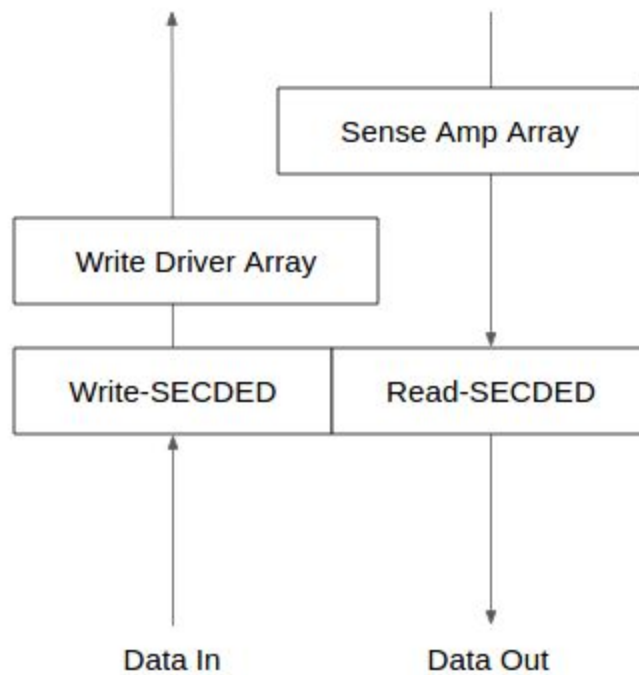

Figure 2 - Proposed Features
- add Read-SECDED circuitry after Sense Amp Array and Write-SECDED circuitry before Write Driver Array (refer to Figure 2).